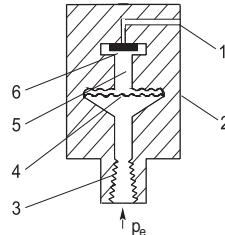

Figure 6 Pressure measuring cell, functional diagram
The pressure  $p_e$  is fed in through the process connection (see (3) Figure 6, page 18) of the measuring cell (2). It is passed further through the seal diaphragm (4) and the filling liquid (5) to the silicon pressure sensor (6) and its measuring diaphragm flexes as a result. Four piezo-resistors in bridge circuit doped in the measuring diaphragm change their resistance as a result. The change in resistance causes a bridge output voltage proportional to the input pressure.